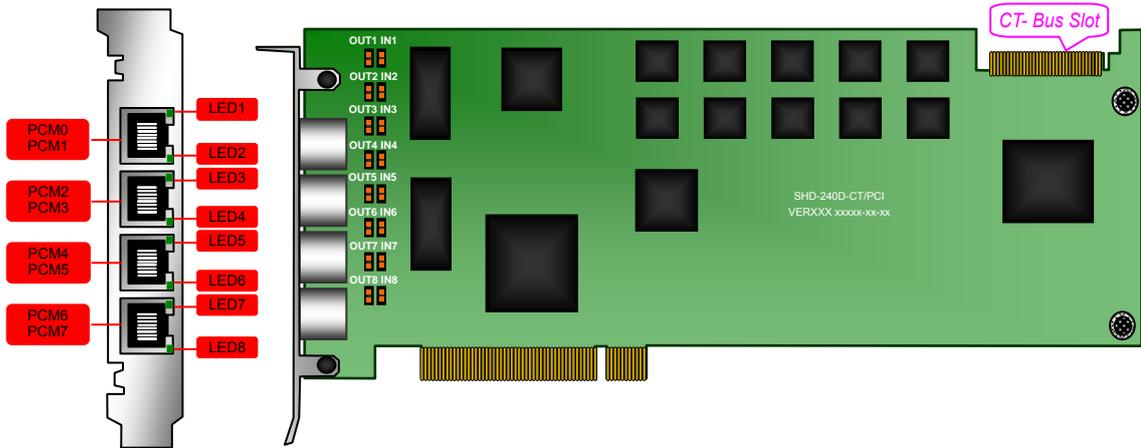
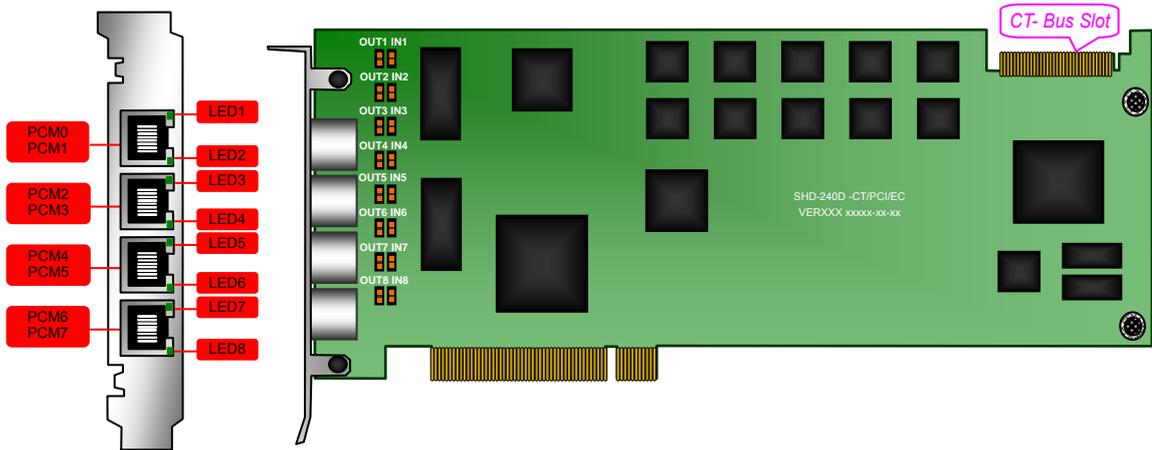

Figure 2-3 Left and Front Side Views
Figure 2-4 Left and Front Side Views
**Notes:** In Figure 2-3 and Figure 2-4, PCM0~PCM7 respectively indicate the 8 trunk interfaces while LED1~LED8 represent their synchronization indicators; INm and OUTm refer to the grounding jumpers respectively at the receiving and transmitting ends for PCM(m-1), m=1~8.